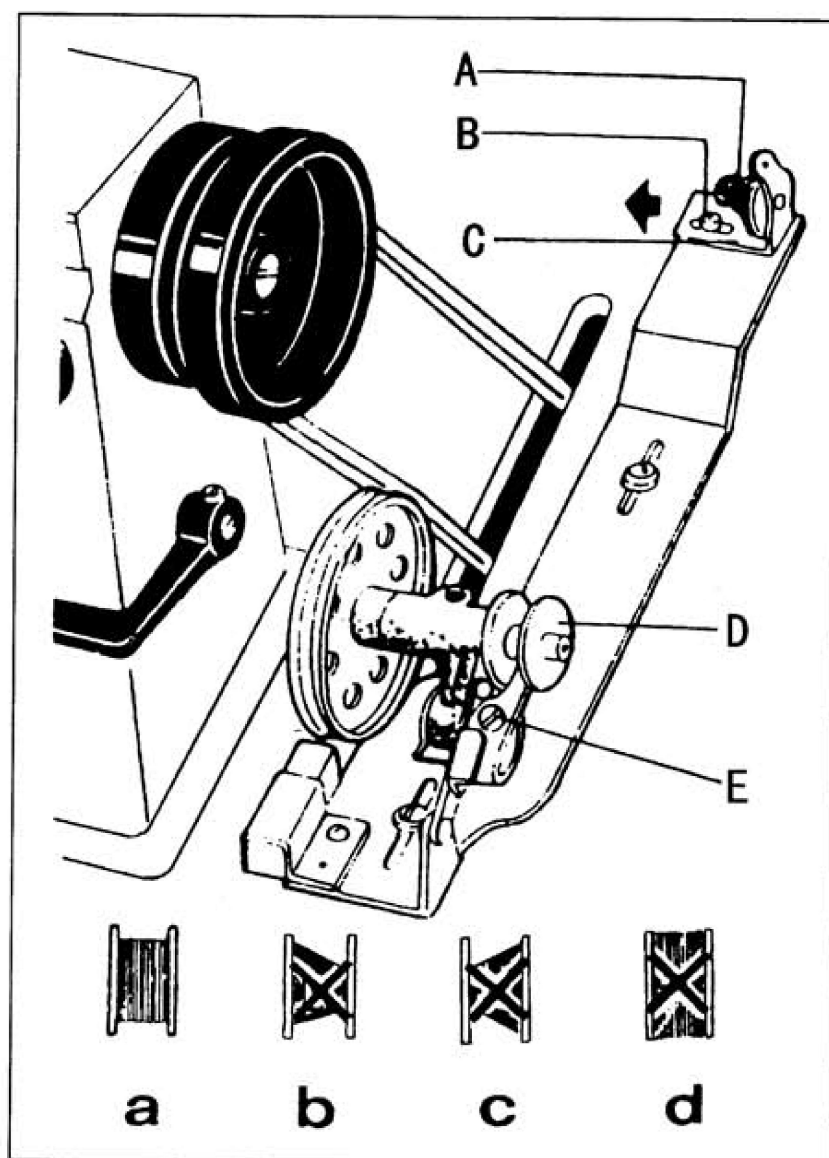

Fig. 7
9. WINDING ADJUSTMENT (Fig.7)
2) When the wound thread layer does not present a cylindrical shape as shown in Fig.7 (a), loosen Set Screw (B) of bobbin winder tension bracket and slide Bracket (C) leftward or rightward. If thread is wound as shown in Fig.7 (b), move the bracket rightward, but if thread is wound as shown in Fig.7 (c), move the bracket leftward.